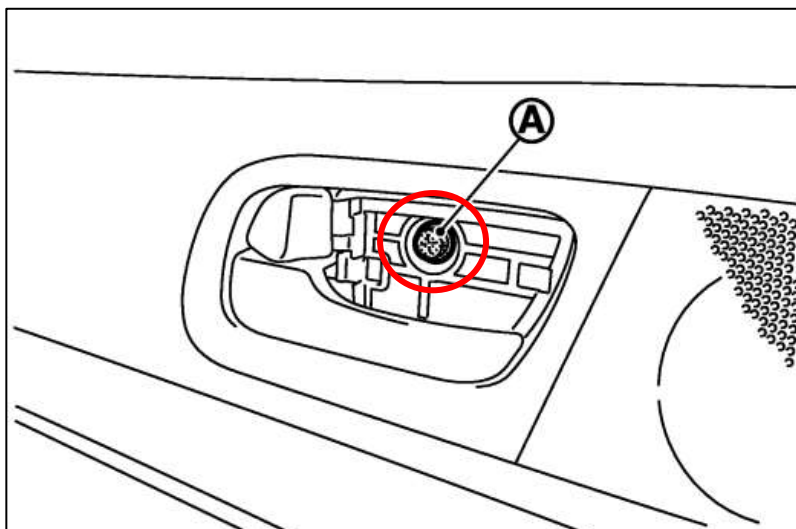

Figure 46
4. Remove the (1) one 10mm Bolt behind the Trim Piece that was just removed. *Figure 46.*